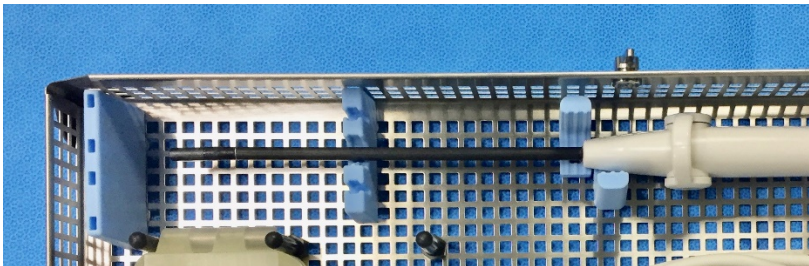

Figure 5-2 Proper storage of the IUUS Probe with its Articulating Tip set to 0°.
- b. Place the IUUS Probe within the tray with the articulation angle set to 0°. Ensure that the articulation lever is facing up, such that the IUUS Probe transducer surface is facing down, see Figure 5-2.